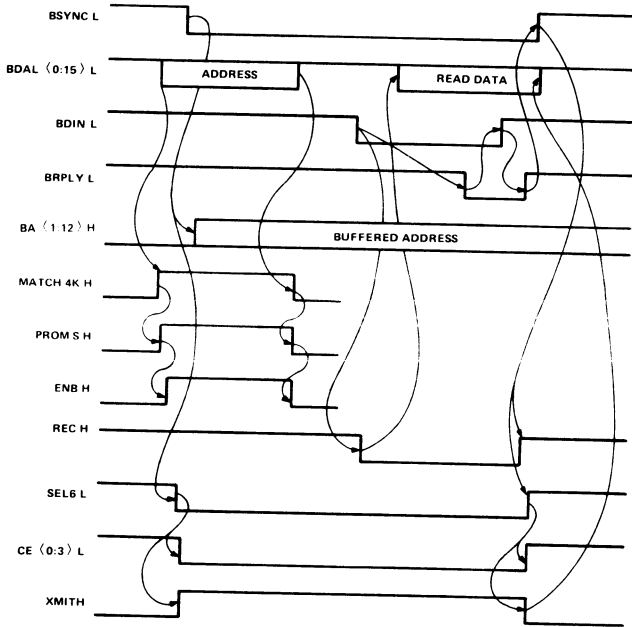

Figure 17-14 PROM Read Sequence (DATI)
**PROM Read Sequence** The PROM read sequence is initiated when the LSI-11 Bus master device places a valid address on the BDAL<0:15> H lines (Figure 17-14). A bank address falling within the user-configured 4K address space enables an active (high) MATCH 4K H signal. Similarly, the PROM 32K address select decoder enables MATCH 4K H when the LSI-11 Bus address is within the configured 32K space. When both conditions are true, MATCH 4K H goes high. This signal is inverted, producing MATCH 4K L, enabling the PROM select decoder. The decoder decodes DAL<11:12> H address bits and produces one active (low) output that represents a 1K segment of the addressed 4K bank. The active signal is routed via an appropriate jumper (W11 through W14) to the PROM S H OR gate. Thus, the resulting active PROM S H signal signifies that a populated portion of PROM is being addressed.